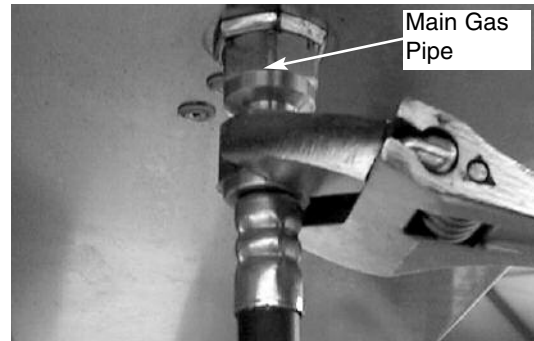

Fig 23
1. Remove the LP regulator from the main gas pipe using an adjustable wrench. Located inside the cart on bottom of grill head. (See Fig. 23)